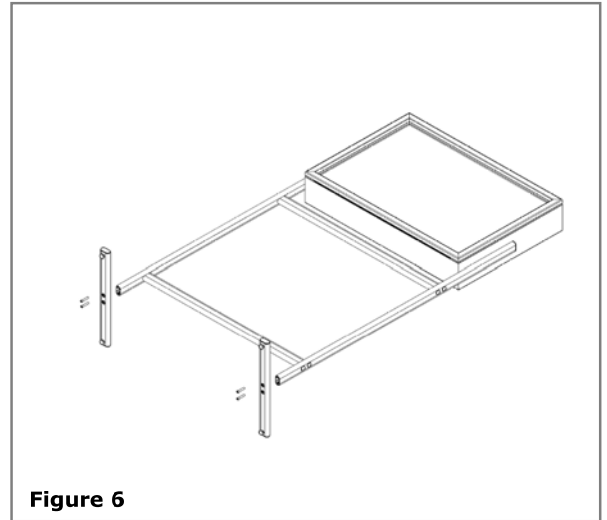

Figure 6
1. Attach the pedestal feet to the posts using the socket-head screws (two per foot). **See Figure 6.**